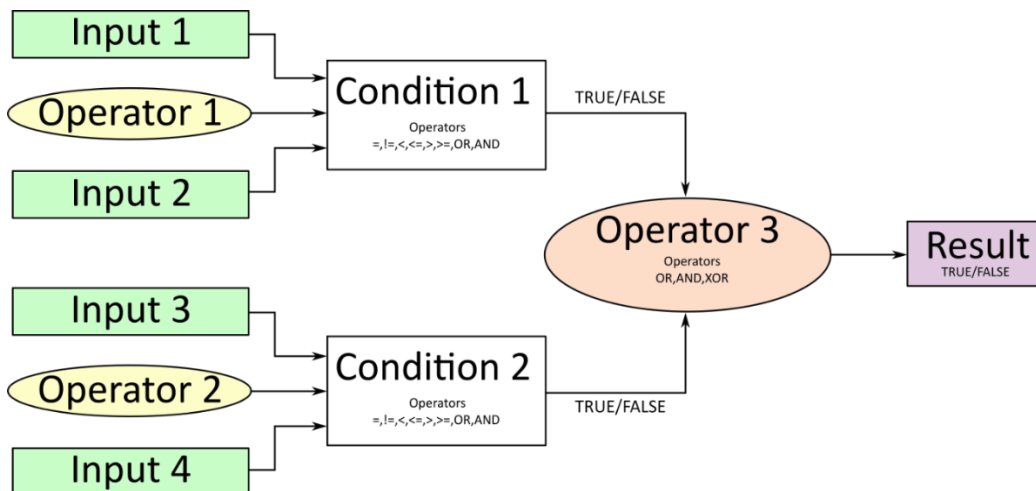

Figure 14: Conditional Block Diagram
This function block is a simple version of the Programmable Logic Function Block and compares up to four different input sources with different logical or relational operators. The result of each block can therefore only be true (1) or false (0). Figure 14 demonstrates the connections between all parameters.